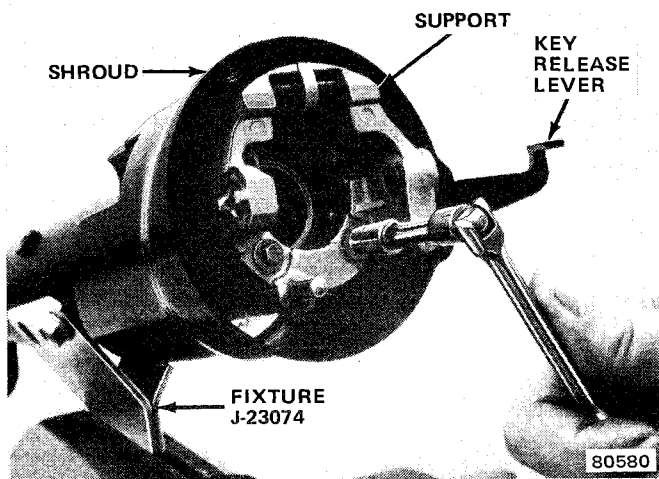

Fig. 2J-58 Support Removal
(42) Remove shroud using twisting-pulling motion (fig. 2J-60).